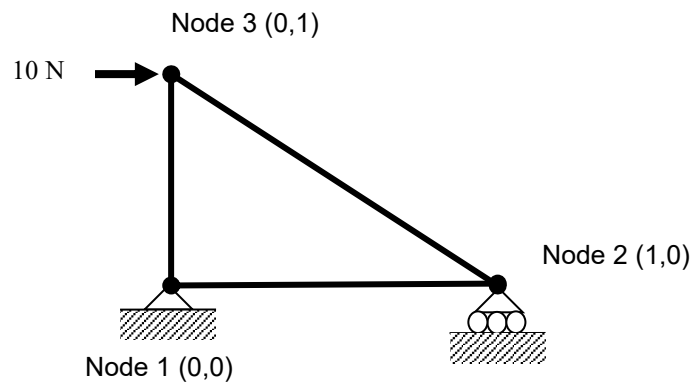

Figure 11
- (b). Show clearly in a step by step manner the development process of a stiffness matrix, $[K]^e$, for a triangular element in a state of plane stress as shown in **Figure 11**. Hence calculate the displacements at node 3 and horizontal displacement at node 2. Given $E = 10^3 \text{ kN/m}^2$, $\nu = 0.3$ and $t = 0.05 \text{ m}$.